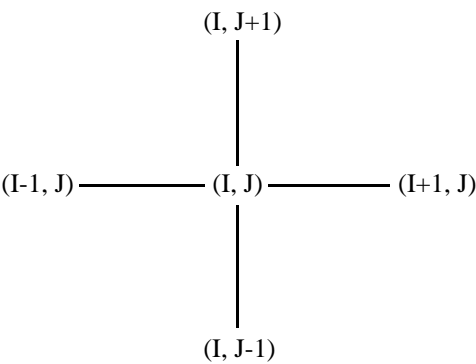

Figure 4-6. IJ-ordered data point neighbors.
4.3.1.2. IJ-Ordered Data Points. The data points for 2- and 3-D surface field plots are usually organized in a two-parameter mesh. Each data point is addressable by a set of the two parameters (I and J) and has four neighboring data points (except at the boundaries). The points are located above, below, to the left, and to the right as shown in Figure 4-6.